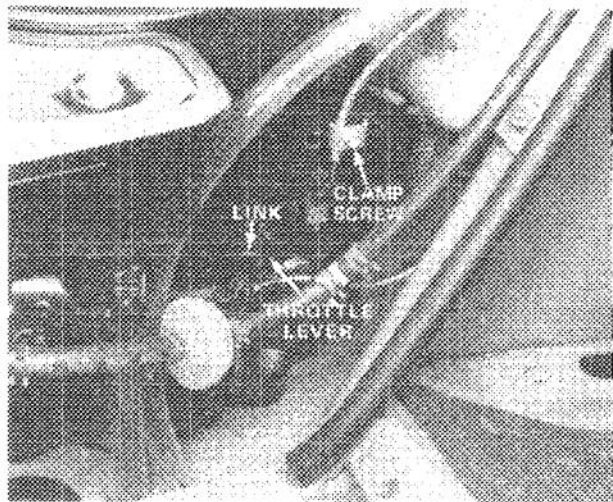

Figure 29
2. Loosen the throttle cable clamp screw (Fig. 29) and move the control cable casing and wire until the throttle lever touches link.